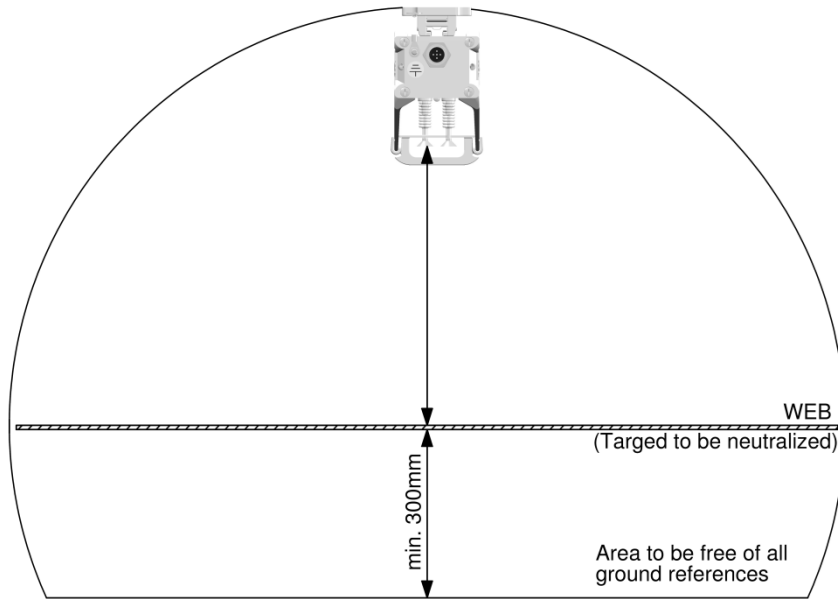

Figure 5
- **For optimum results, the anti-static bar must be fitted as per Figure 5.**